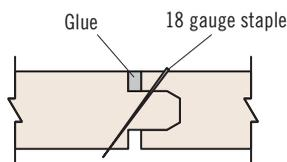

Figure 10
- Apply a continuous bead per manufacturer's instructions to the top of framing members. Use a serpentine pattern on supports that are $3\frac{1}{2}$ " or wider. Apply two beads of glue at panel joint locations. A $\frac{1}{8}$ " diameter glue bead applied at the T&G joints can further improve floor performance. See *Figure 10*.
Cut a shallow saw kerf at the panel joint; be careful not to cut the tongue of the joint. Make sure the cut is free of debris, then fill the gap with adhesive. Staple the joint using 1" x 3/8" 18-gauge staples at 6" on-center. See *Figure 10*.